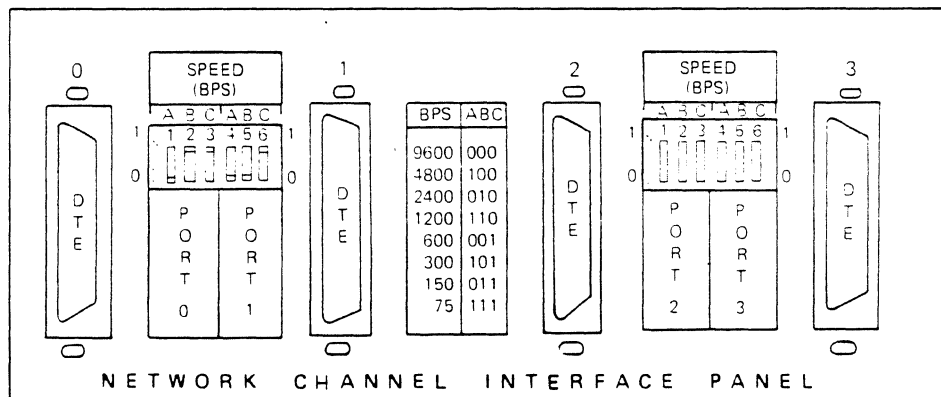

Figure 8-5. Network Control Interface Panel
3. Set the speed (Figure 8-5) for both NCI ports used to the same value (9600 bps maximum).
3. Set the speed (Figure 8-5) for the NCI port to the same speed as the modem being used (9600 bps maximum).